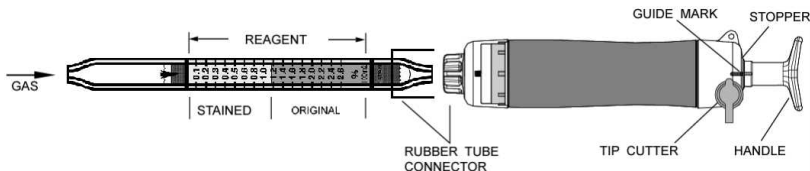

Fig.1
- ② Insert the detector tube into the aspirating pump securely as shown in Fig.1. (Arrow mark shall point to the pump.)
- ③ Align the guide marks on the shaft and stopper of the aspirating pump.
- ④ Pull the pump handle at a full stroke until it locks and wait for 5 minutes or until the completion of sampling is confirmed with the flow indicator of the pump. (See descriptions about the flow indicator in the instruction manual of the pump.)
- ⑤ On completion of sampling, read the scale at the maximum point of the stained layer.
- ⑥ When the concentration is over the scale range, a 1/2 pump stroke can be used to determine concentrations of 0.2 to 5.2 ppm.